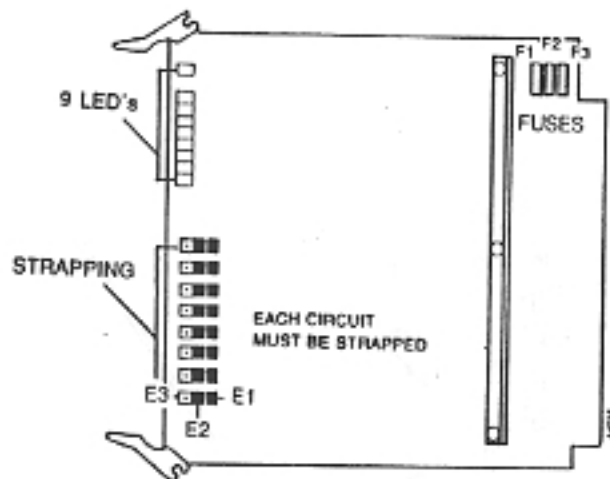

Figure 5-13 SINGLE-LINE ( B-8SLU-B ) PCB
6.12 Single-Line ( B-8SLU-B ) PCBs are required when single-line ( 2500 type ) telephones are used in the system. Each PCB contains eight single-line circuits and occupies one station PCB slot in the KSU or Expansion Cabinet. Strap each circuit on the B-8SLU-B in the 1-2 position ( Figure 5-13 ) and insert each B-8SLU-B PCB in the appropriate slot.